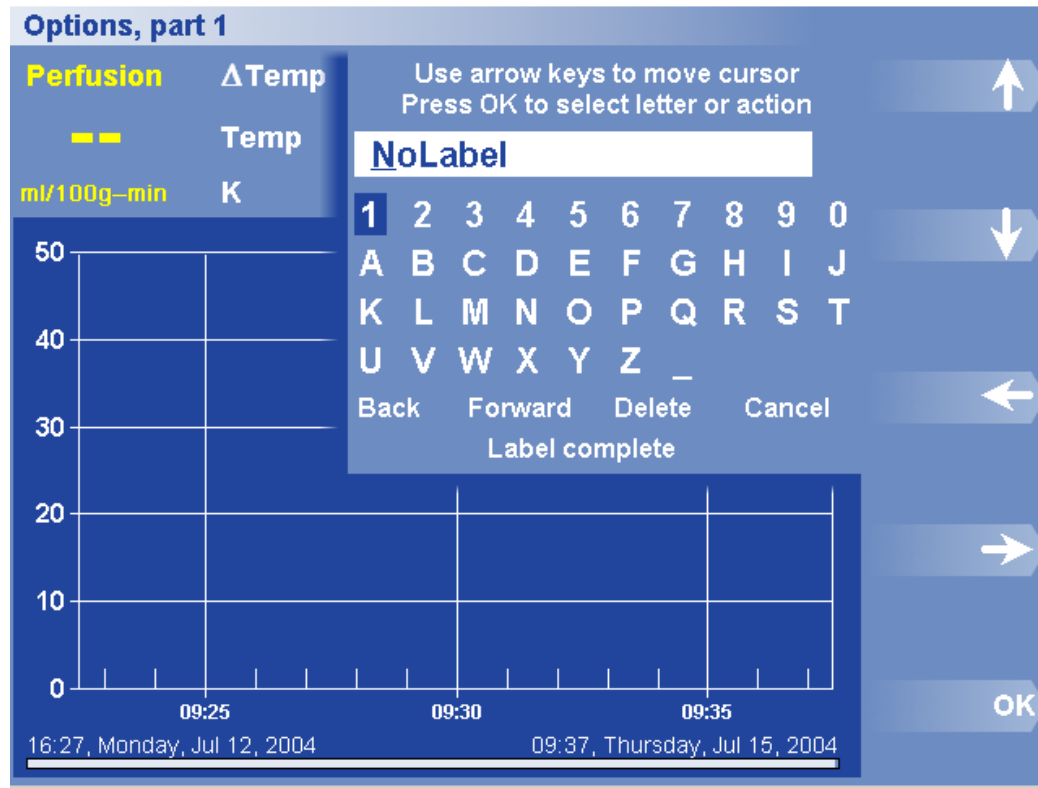

Figure 23. Set Label Dialog Box and Menu
1. Press Options > Set Label. The Label dialog box appears (See Figure 23).